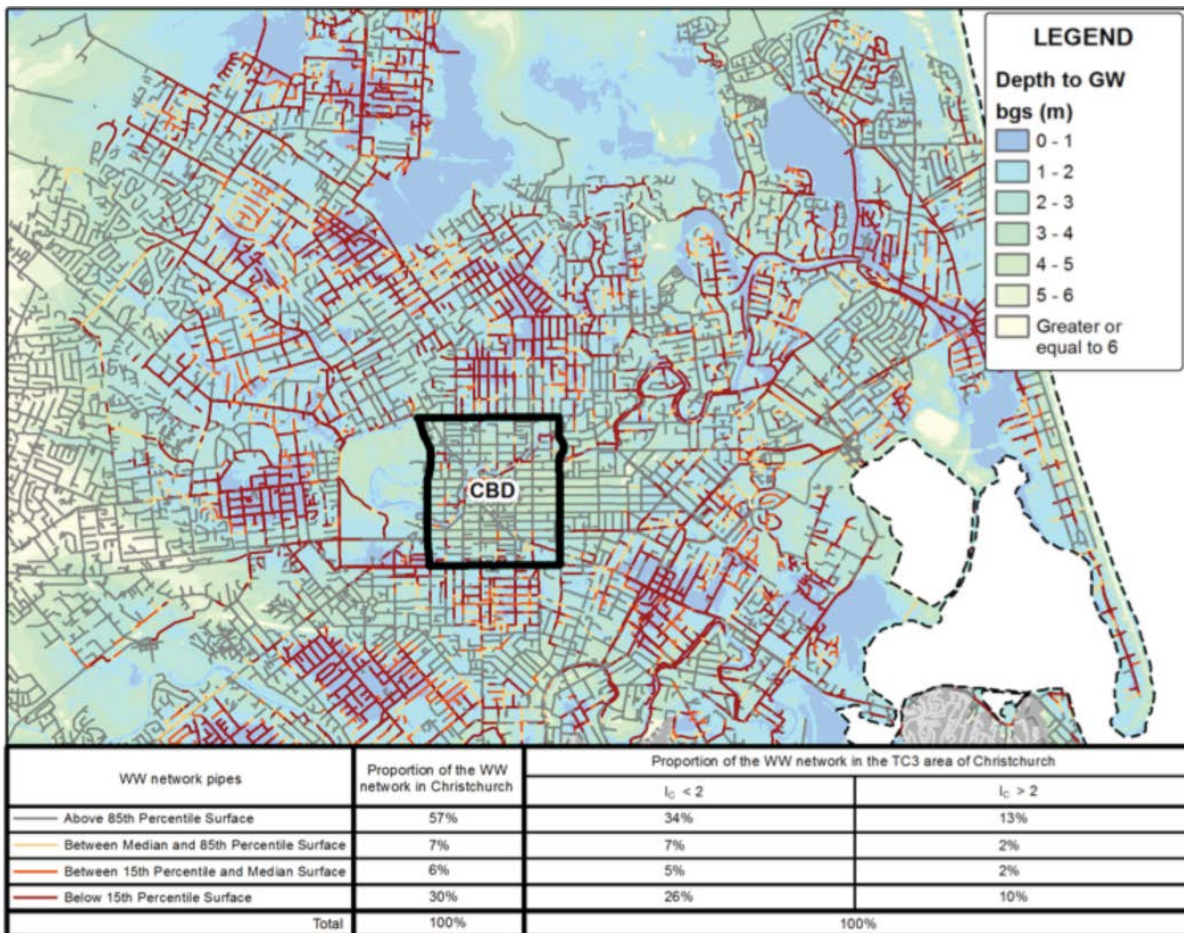

Figure 3: CCC WW network overlain on the 15th, 50th and 85th percentile groundwater surfaces.
The high density of shared data in Christchurch enables interpolation between points which in turn allows interpretative maps to be generated such as depth to groundwater, soil behaviour type index ( $I_c$ ) CPT tip resistance, ( $q_c$ , which is a measure of soil density), depth to hard / dense soil layers etc. Figures 3 to 7 below present some examples of how the extensive dataset collated in the CGD can be analysed and mapped for more strategic purposes, outlined above, to inform decision makers. Without this extensive dataset these analyses would be difficult to produce.
Figure 3 shows the entire Christchurch City Council (CCC) Wastewater (WW) network overlain on the 15th (lower), 50th (mean) and 85th percentile (higher) groundwater surfaces (van Ballegooy et al., 2014) as well as the CPT based  $I_c$  layers over the portion of the network in the TC3 area. The red pipes (about 30% of the network) represent the part of the network which is likely to be almost always below the groundwater table (below the 15th percentile groundwater level). This part of the network when founded in sandy soils ( $I_c < 2$ ) would probably require extensive dewatering equipment to repair or replace any pipework irrespective of the time of year the work is undertaken. The orange and yellow pipes represent the part of the network (about 6% and 7%) which is between the 15th and 50th percentile and 50th and 85th percentile groundwater surfaces respectively and is therefore for the majority of the year likely to be either below (the orange pipes) or above (the yellow pipes) the groundwater table. Lastly, the grey pipes (57% of the network) are above the 85th